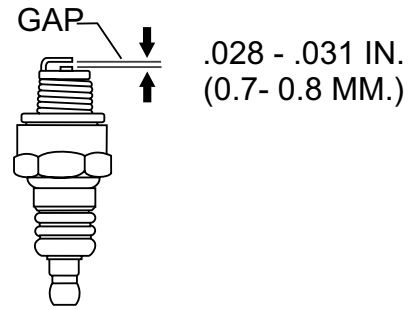

Figure 49. Spark Plug Gap
1. Remove and clean spark plug (Figure 49) with a wire brush if it is to be reused. Discard spark plug if the insulator is cracked or chipped.